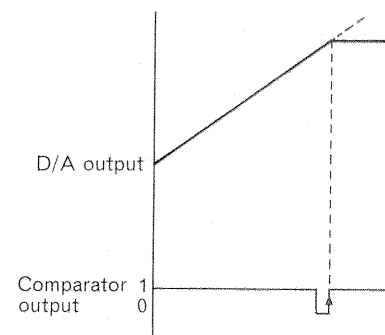

Fig. 18
5-bit data is supplied to IC501R to form a programmable comparison voltage to PLAY input signal of comparator (IC801), and D/A converted DC output is supplied to the comparator through terminal (14). The comparison output between PLAY input and D/A is read every time the 5-bit data increases by 1 step. Data is added until both input voltages shown in Fig. 18 coincide, the comparison output is set to Lo potential and then reaches Hi potential again.